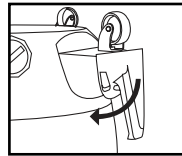

FIGURE 14
13. Apply pressure to front of hose holder to snap into place. **FIGURE 14.**